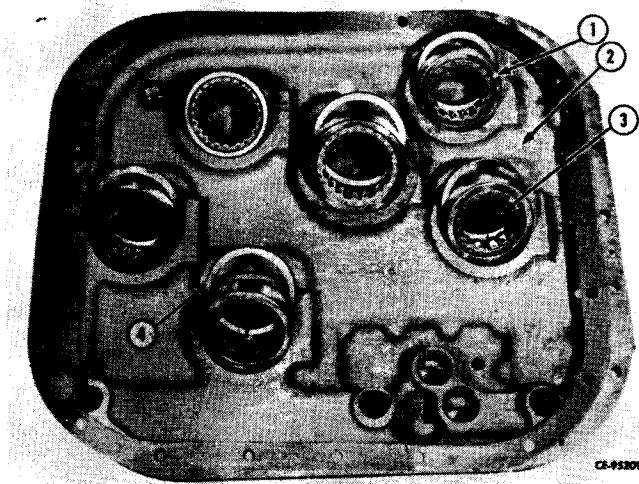

Figure 4-44
Remove bearings (1, Fig. 4-44) and spacers (4) with an acceptable puller that will exert its pressure on the outer bearing race only.